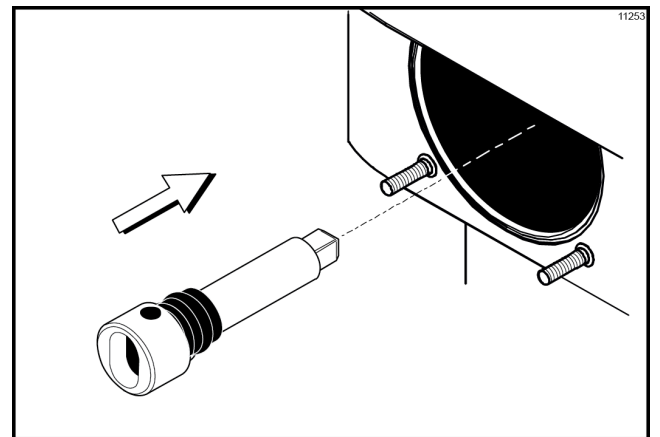

Figure-112
2. Install the shake beater driveshaft through the rear shell bearing in the freezing cylinder and engage the square end firmly into the driveshaft coupling. Make sure the driveshaft fits into the drive coupling without binding. (See Figure-112.)